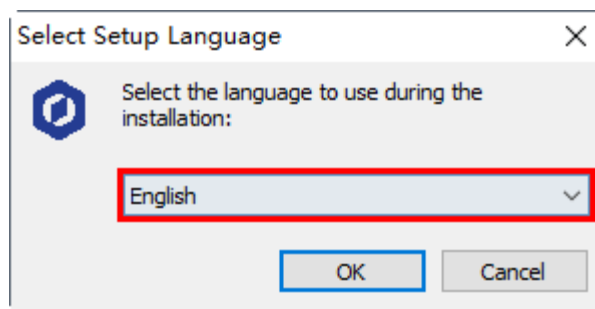

Figure 2.4 Select English
- Step 3** Choose a setup language such as **English**, as shown in Figure 2.4. You can also select **Chinese** if needed.